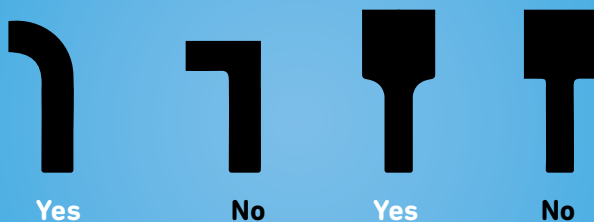

Figure 5. PC board traces and landing pads.
- Reduce abrupt trace width changes such as 90-degree bends. Smooth transitions are best. (See Figure 5.)